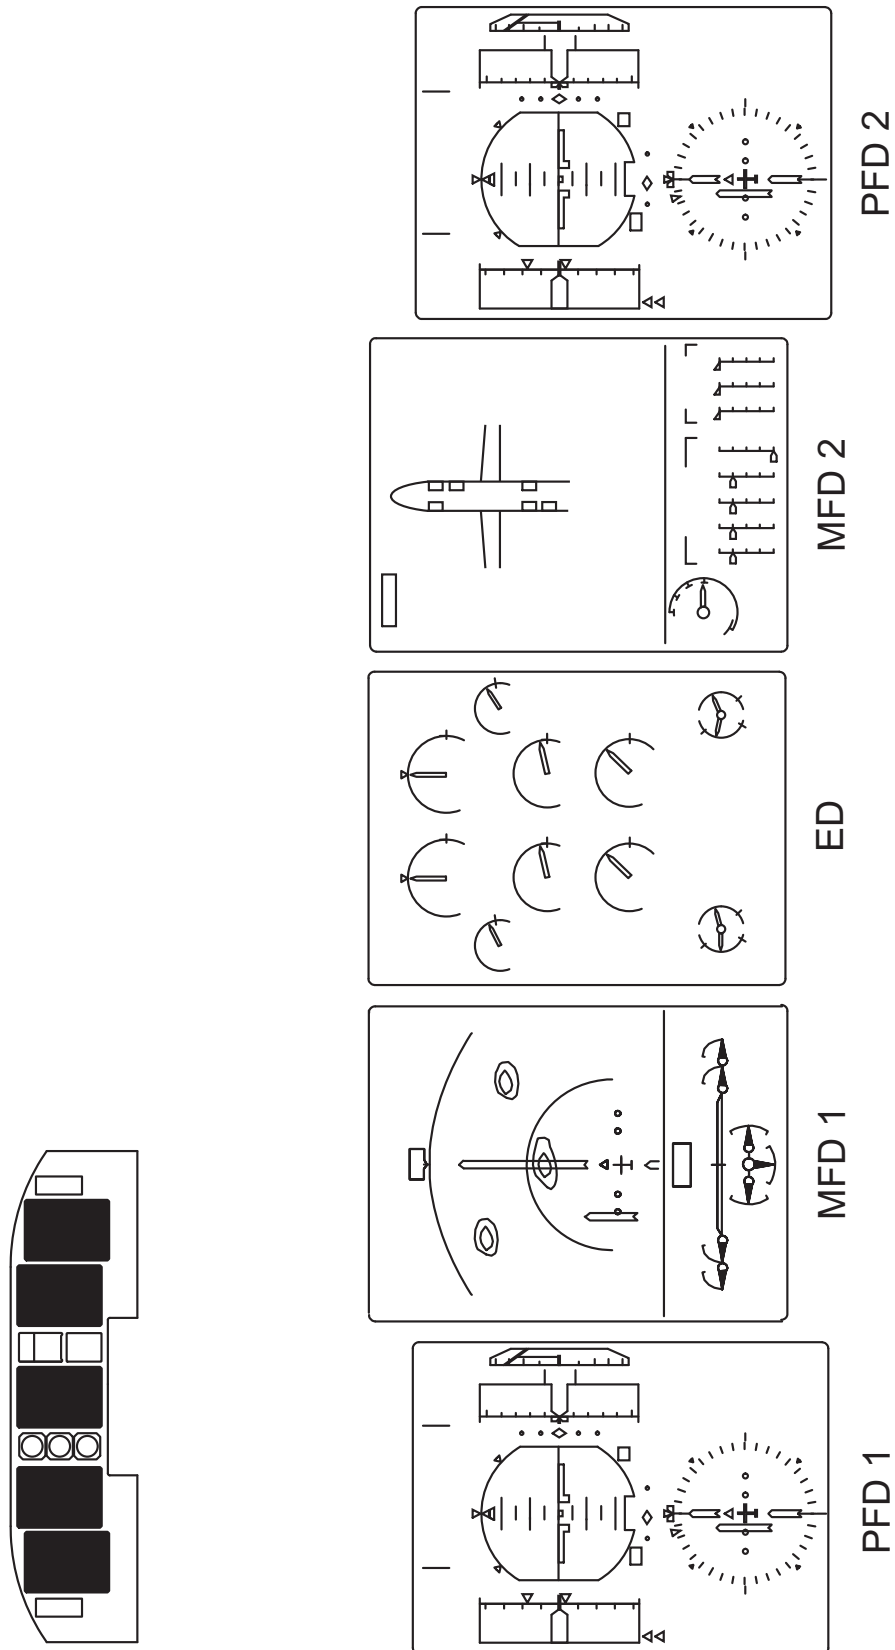

Figure 12.12-40 MFD2 Selected to DOORS Page
- DOORS (Figure 12.12-40, 12.12-41)